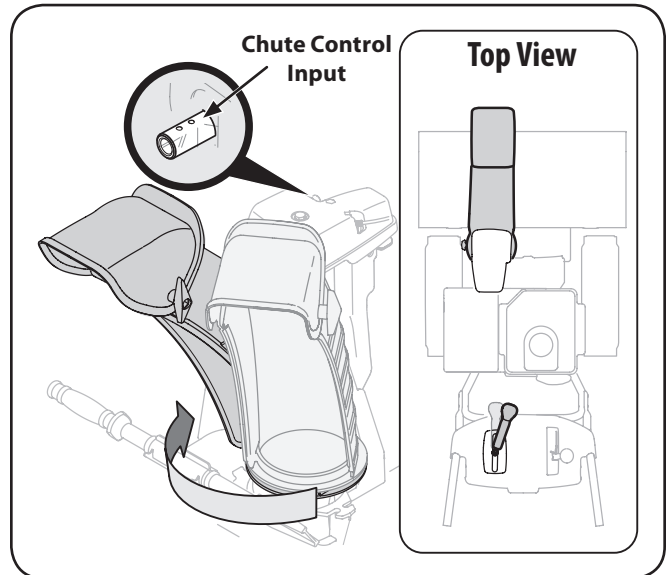

Figure 3-6
4. Squeeze the trigger on the joystick and rotate the chute by hand to face forward. The holes in the chute control input will be facing up. See Figure 3-6.
NOTE: The joystick will be angled slightly to the right at the one o'clock position. See "Top View" in Figure 3-6.